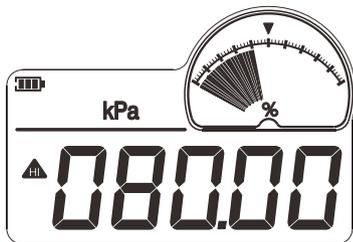

Figure 7-7-4: The setting menu of the high or limit and the lower limit
- (1) Press and hold  display the higher limit  and the lower limit  then move the cursor up or down by pressing  or .
- (2) Press or to access the alarm adjust status, then when is displayed, the higher pressure limit can be set, when is displayed, the lower pressure limit can be set. After these steps are completed, press to select negative (-) or positive (+) values.
- (3) After the high limit is adjusted, the menu will automatically enter the lower limit and then return to the normal screen. The sequence is: High limit, Low limit, Quit.
- (4) The ADT681 automatically checks the validity of the input data. If there is a problem or if the data input is not valid, the ADT681 will not accept the change. Figure 7-7-4 shows the setting menu.